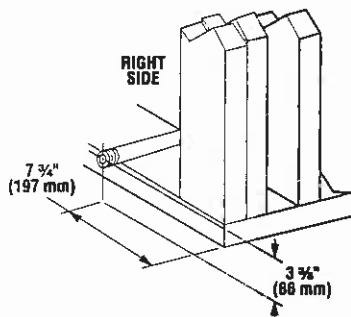

Figure 8
Step 2. Route gas line (Figure 8) using techniques and materials prescribed by local and/or national codes. It is recommended that a gas line of 1/2" or greater diameter be used to allow full gas volume to the fireplace. Undue pressure loss will occur if the pipe is too small. The appliance, as set up at the factory, is best suited for use with a gas line routed from the right side. The gas line may however be alternately routed from the left side.